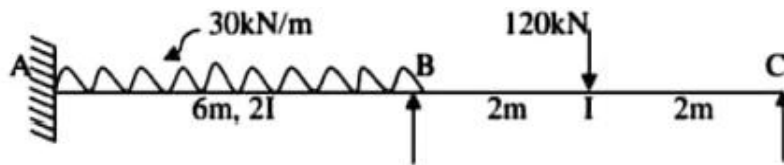

Fig.4
7. Analyse the continuous beam shown in Fig.4 by flexibility method, support B sinks by 10 mm.